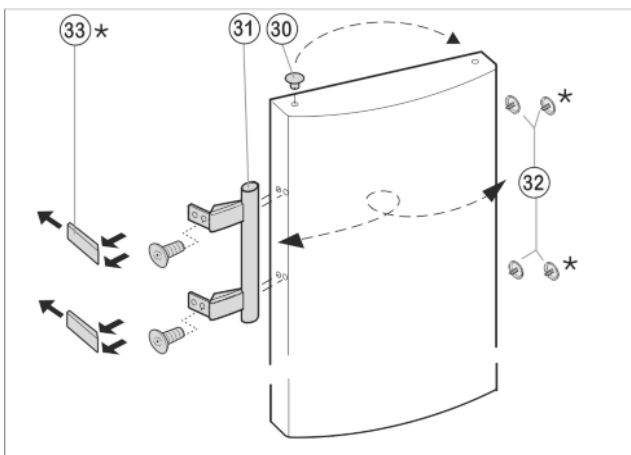

Fig. 8
- ▶ Lift the stopper Fig. 8 (30) out of the door bearing bush and transfer it.
- ▶ Dismantle the door handle Fig. 8 (31), stoppers Fig. 8 (32) and pressure plates\* Fig. 8 (33) and transfer to the opposite side.